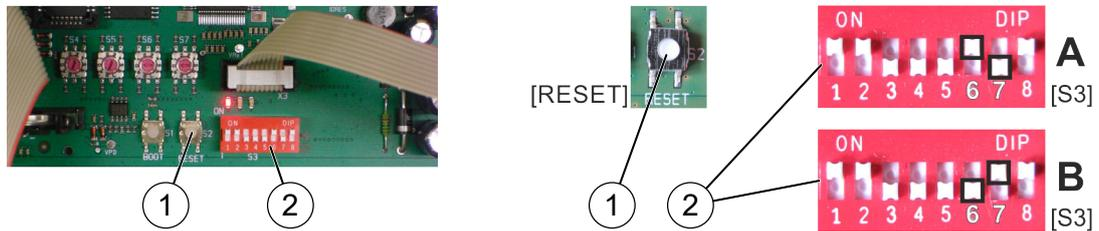

Fig. 35: [Reset] button and DIP switch "S3"
- On the CPU3 control card on DIP switch "S3" (Fig. 35/2), set slide buttons "6" and "7" according to the switch type (transparent/gray):
- Restart the system by pressing the [Reset] button (Fig. 35/1).